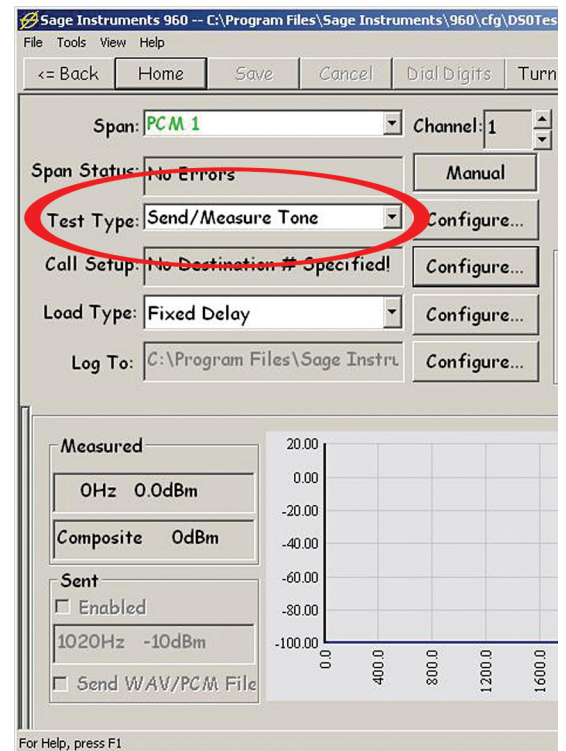

Figure 3.1.5
2. Configure PCM1 for the Send Tone test. From the span view window double-click on PCM1 to bring up the channel view. Double-click on channel 1 to bring up the main test configuration screen. From the test type pull down menu select “Send/Measure Tone” and click save (see figure 3.1.5).